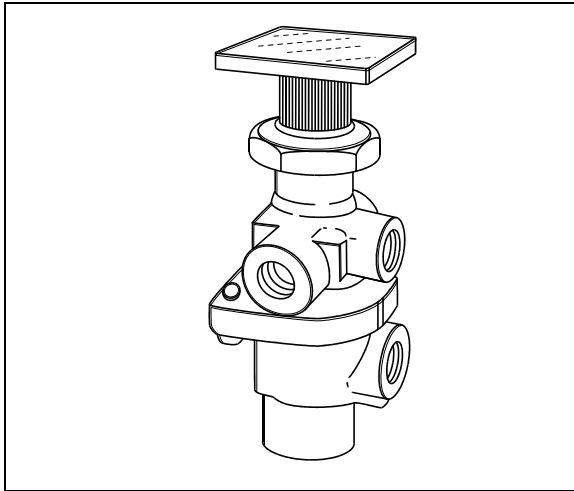

FIGURE 11: PP-1 12142
2. Access this valve by tearing out the finishing panel, which holds the controls in place (Fig. 11).